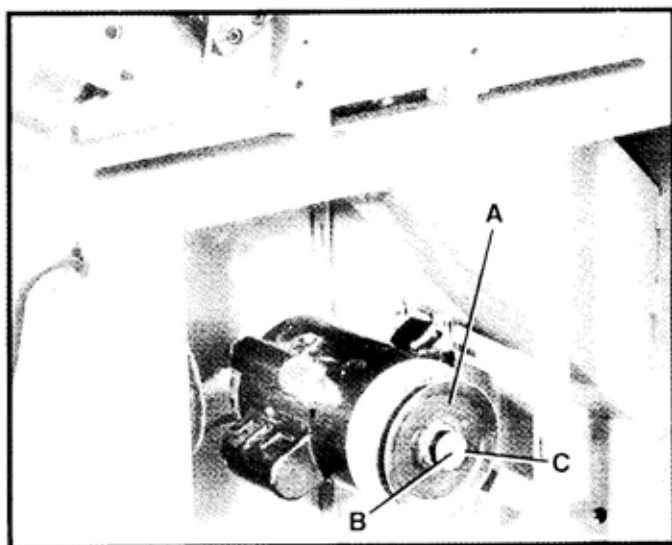

Fig. 10
Assemble motor pulley (A) Fig. 10, on the motor shaft (B) with the hub of the pulley in the outer position as shown. Make certain key (C) is inserted in the keyway of the pulley and motor shaft. Tighten set screw (which is located on the pulley hub) against the motor shaft (B)